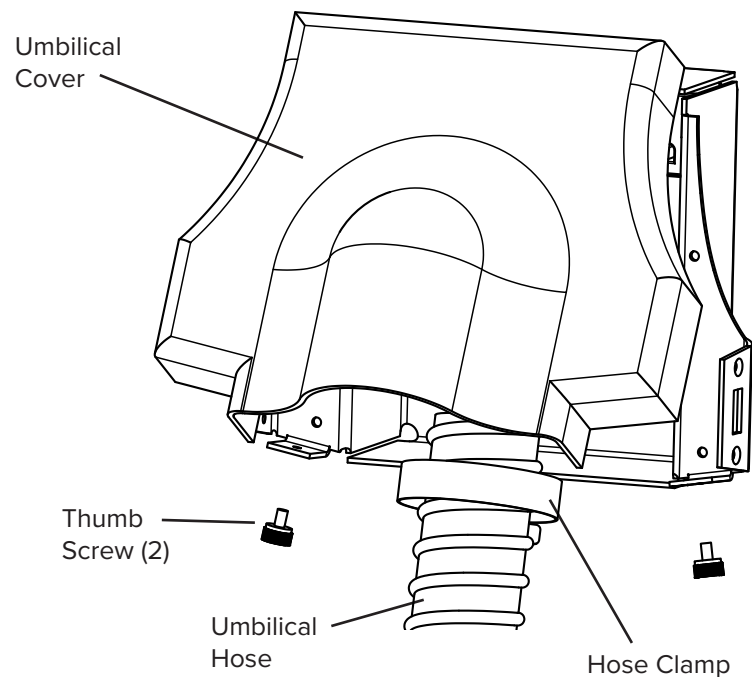

Fig 10.4
1. Securely attach umbilical hose to chassis with hose clamp. See Fig 10.4. When in place, rotate clamp nut towards back of tab.